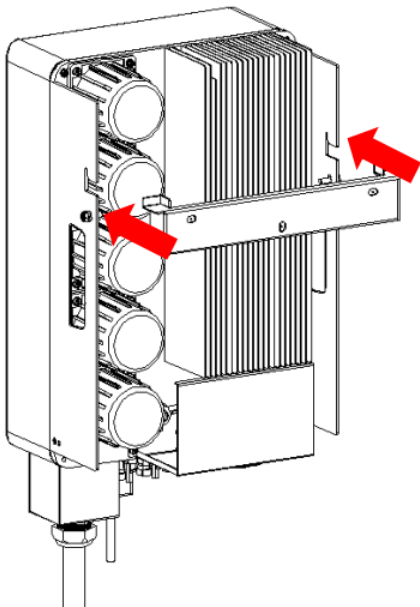
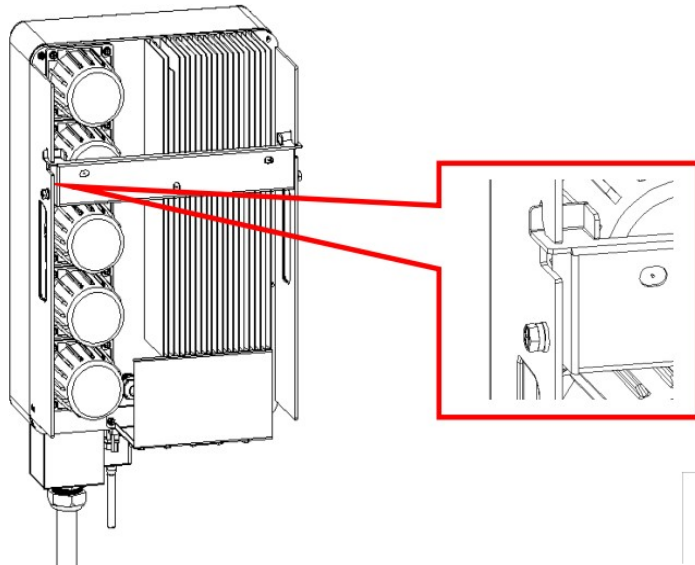

Fig. 10
Fig. 11
2. Hang the inverter hanger vertically onto the wall mounting bracket (Fig. 10). Fasten the wall mounting bracket and the inverter hangers by M5 bolts on the left and right sides of the wall mounting bracket (Fig. 11).